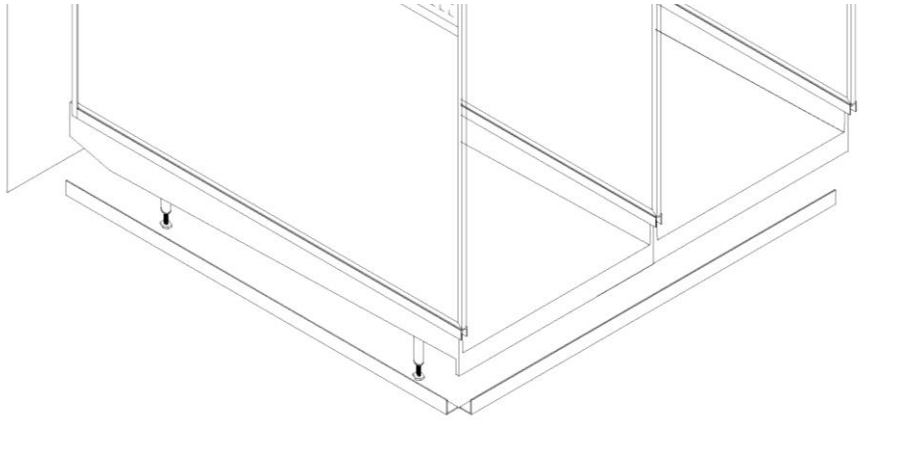

Fig. 39
2. Place aluminum angle supports along chalk lines to determine proper fitment. Some trimming of aluminum angle supports using a 4 1/2" Angle Grinder w/Abrasive Cutoff Wheel may be necessary to achieve proper fitment, depending on individual application. See Fig. 39.